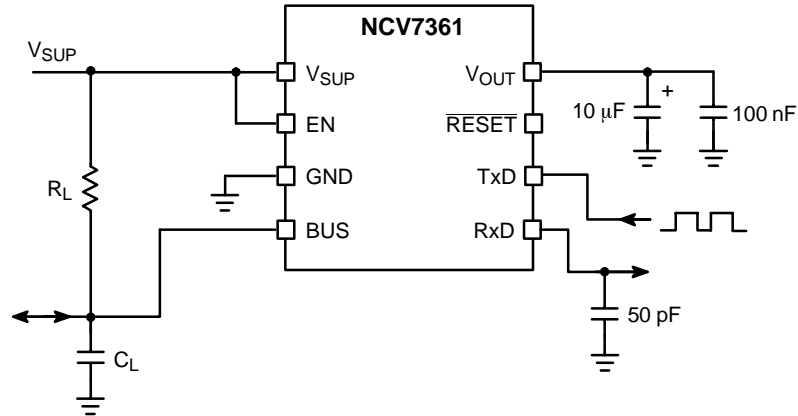

Figure 4. Test Circuit for Delay Time and Slope Control
11. See Figures 4, 5, 6, 7, and 8 for test setup.